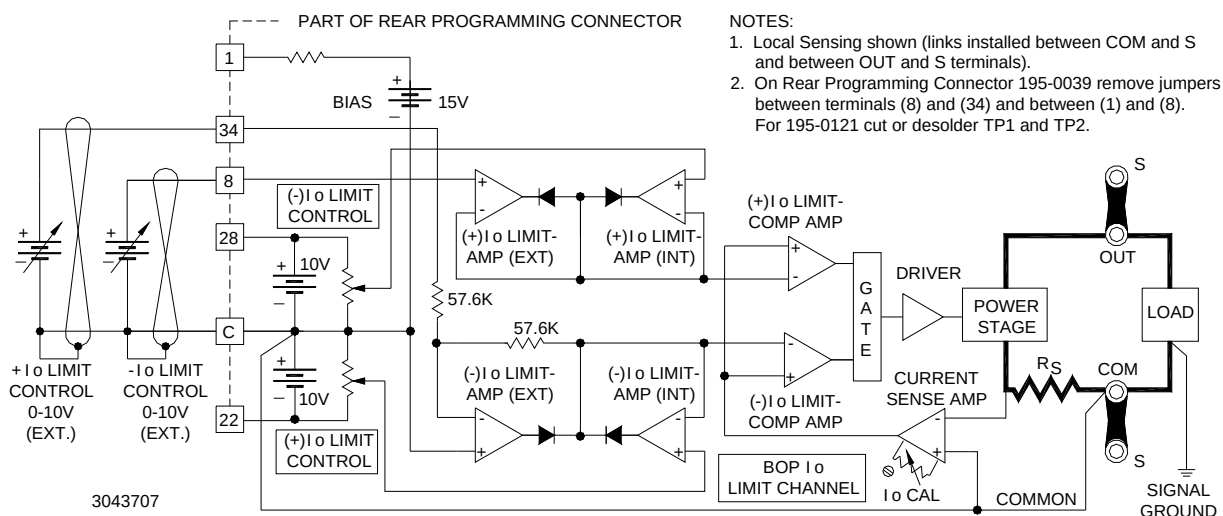

FIGURE 3-14. INDEPENDENT REMOTE CONTROL OF + I_o AND - I_o LIMITS
If individual control of the $\pm$ current limits is desired, the jumper between (8) and (34) at the Rear Programming Connector must be removed and separate control sources must be connected: 0 to +10 volts to pin 8 for the $+ I_O$ limit, and 0 to +10 volts to pin 34 for the $- I_O$ limit, both with reference to common (see Figure 3-14).